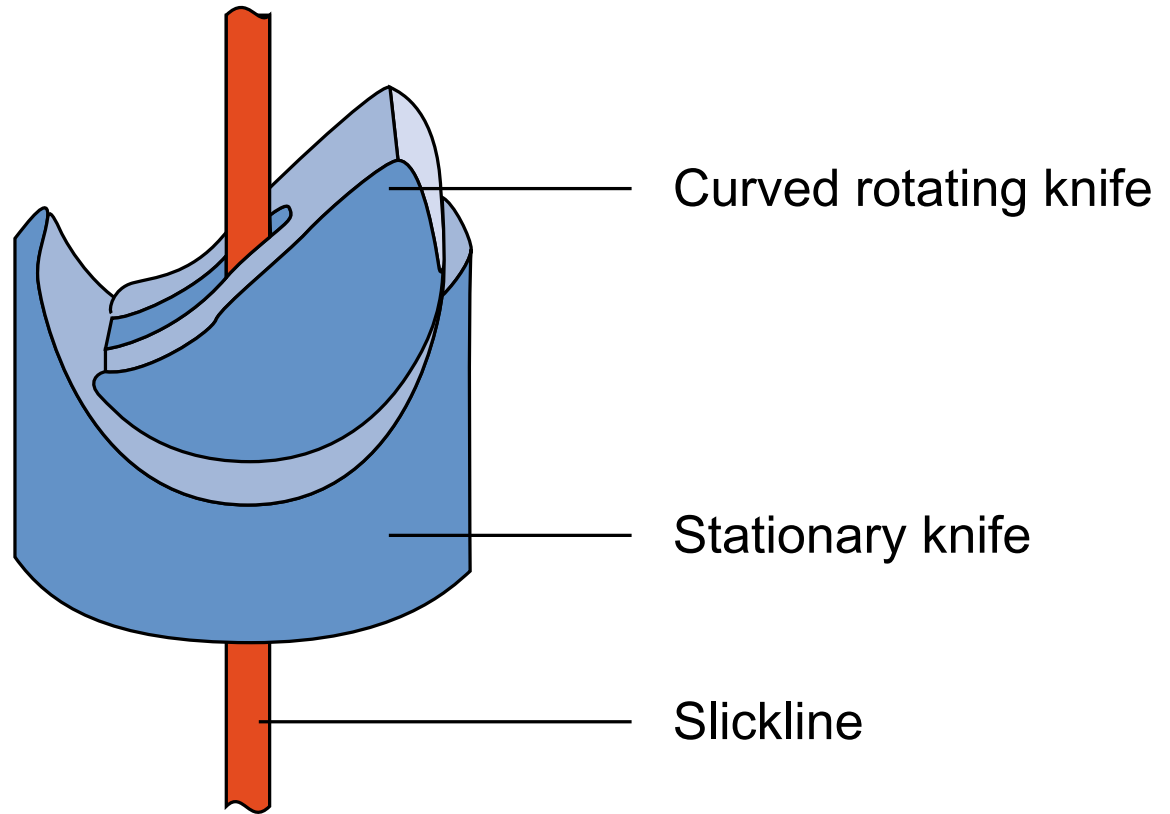

Figure 15-7: Cutter Mechanism Detail
- Clean wire cutting by shearing is obtained even with regular use over a long period, thanks to the shape of the knives (see Figure 15-7 Cutter Mechanism Detail).